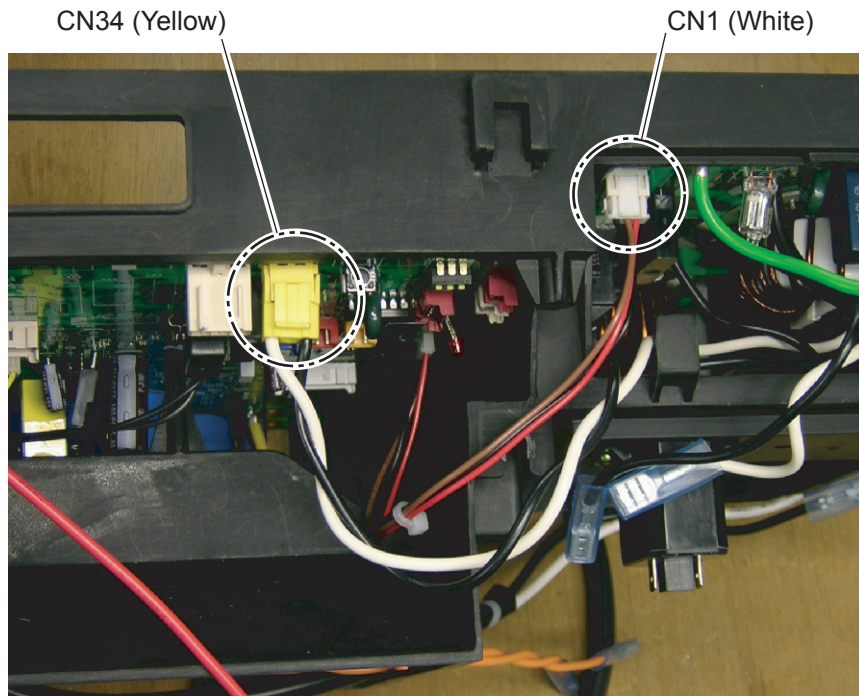

Fig. 8
- As shown in Fig.8, connect wires.